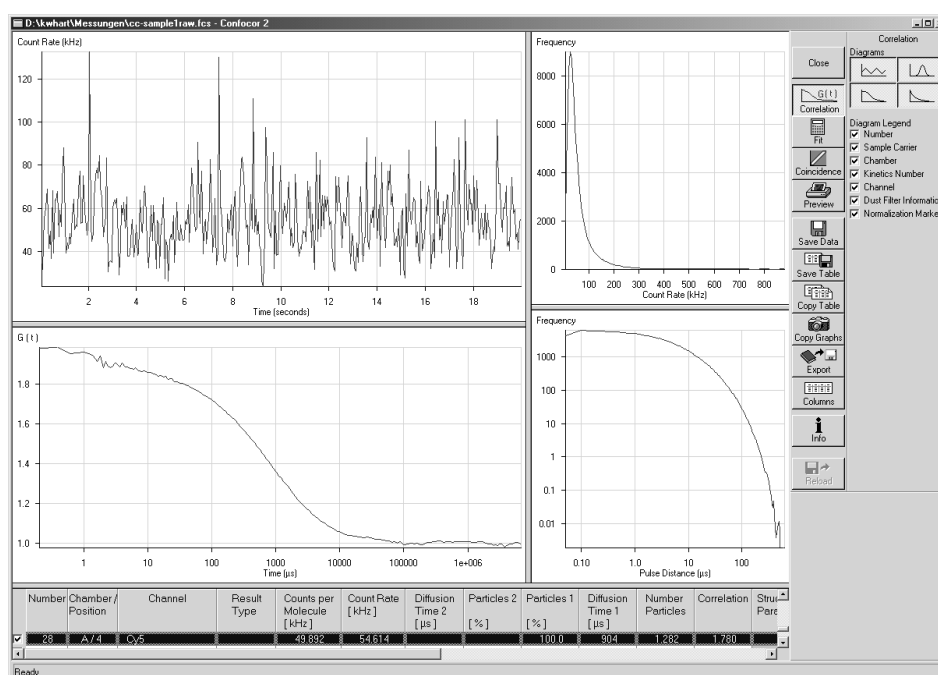

Fig. 3-20 Data Evaluation window
- When you click **Start** from the **Method Measurement ...** window, the **Data Evaluation** window will appear (Fig. 3-20).
If you click on the **Correlation** button (Fig. 3-20), the **Diagrams** subordinate at the very right-hand side of the window will appear. By clicking on the appropriate button the diagram can be toggled between **ON** and **OFF**.